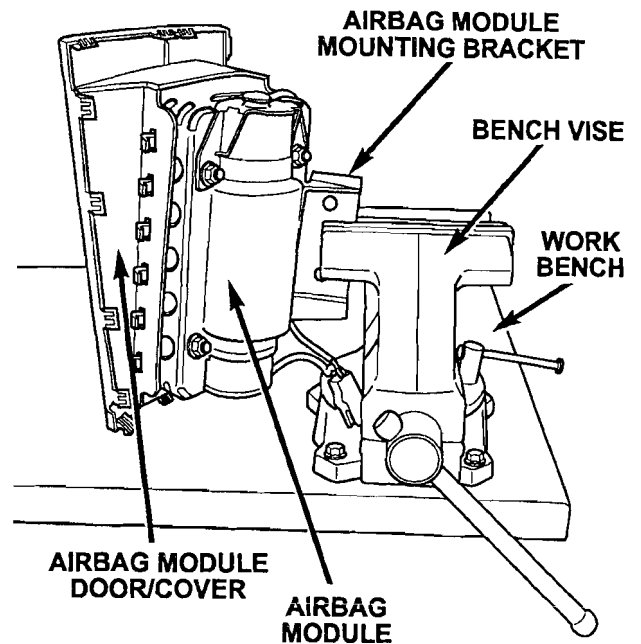

Figure 5
9. Mount the airbag assembly in a bench vise as shown in Figure 5.